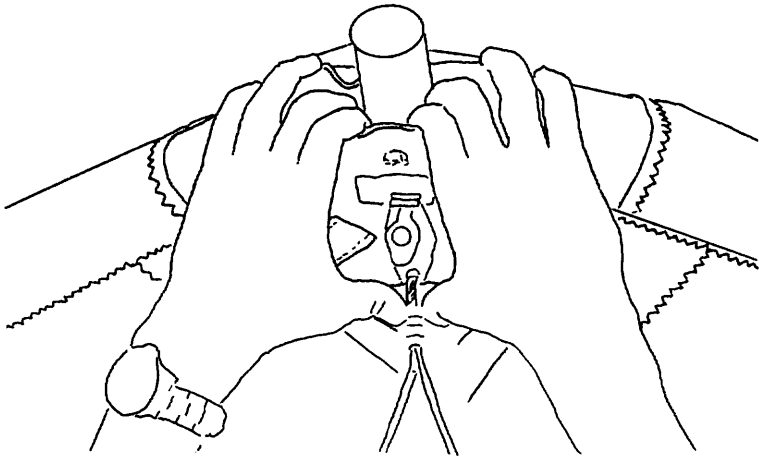

FIG 58
- 3) Detach the bottom front wires at the noseplate by pressing upwards with your thumbs on the "T" handle while pulling down on the nose. (Fig 58)